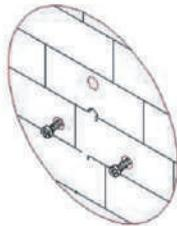

Fig.2
3. Insert two screws (provided) into the two lower-most mounting hole locations, as shown in Fig. 2. Do not tighten the screws fully.